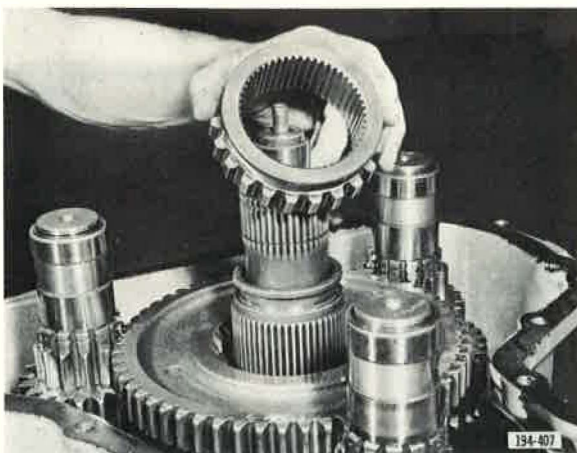

Figure 51. Installing First Speed Gear Sliding Clutch
14. Install first speed gear sliding clutch. See Figure 51.